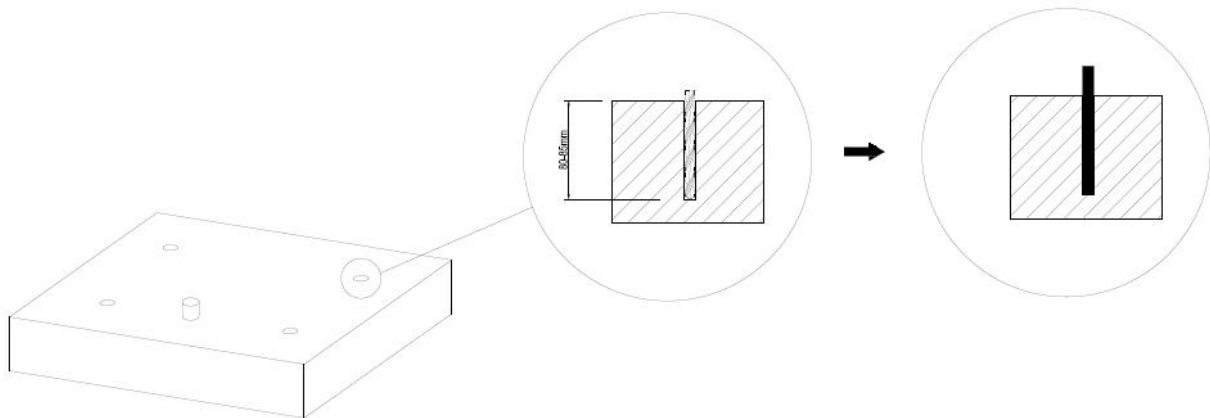

Figure 9
- Tap the four M12*80mm expansion bolts into the holes with a hammer, then tighten the screws to expand and fix them in the holes, and remove the nuts and spacers, as shown in Figure 9.